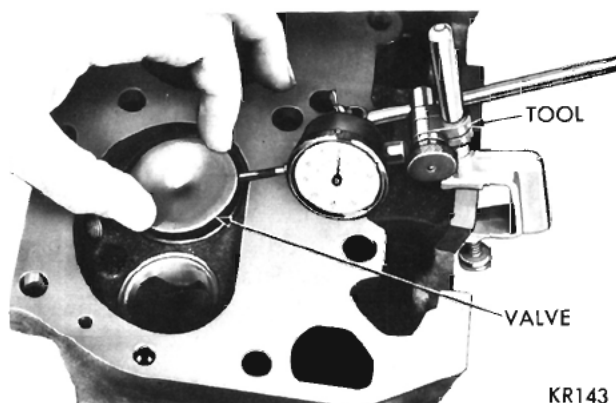

Fig. 74—Measuring Guide Wear Using Tool C-3339 (Typical)
(5) The special sleeve places the valve at the correct height for measuring with a dial indicator. Attach the dial indicator Tool C-3339 to cylinder head and set it at a right angle to the valve stem being measured (Fig. 74). Move valve to and from the indicator. Total movement should not exceed .016 inch on in-